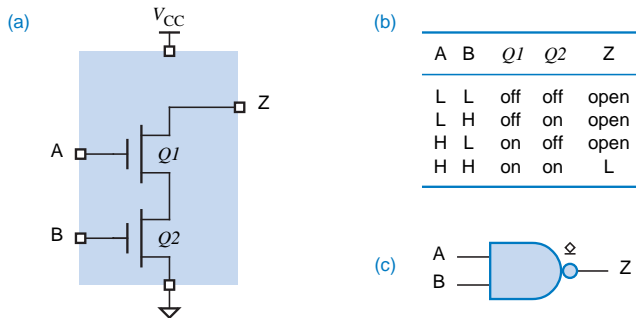

Figure 30: Open-drain CMOS NAND gate: (a) circuit diagram; (b) function table; (c) logic symbol.
- In Fig. 30, drain of topmost n -channel is left unconnected internally